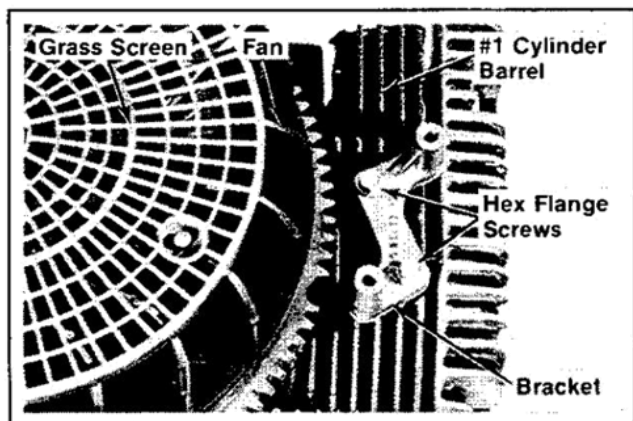

Figure 9-19. Removing Ignition Module Bracket.
2. Remove the hex flange screws and bracket from #1 side cylinder barrel. Refer to Figure 9-19.